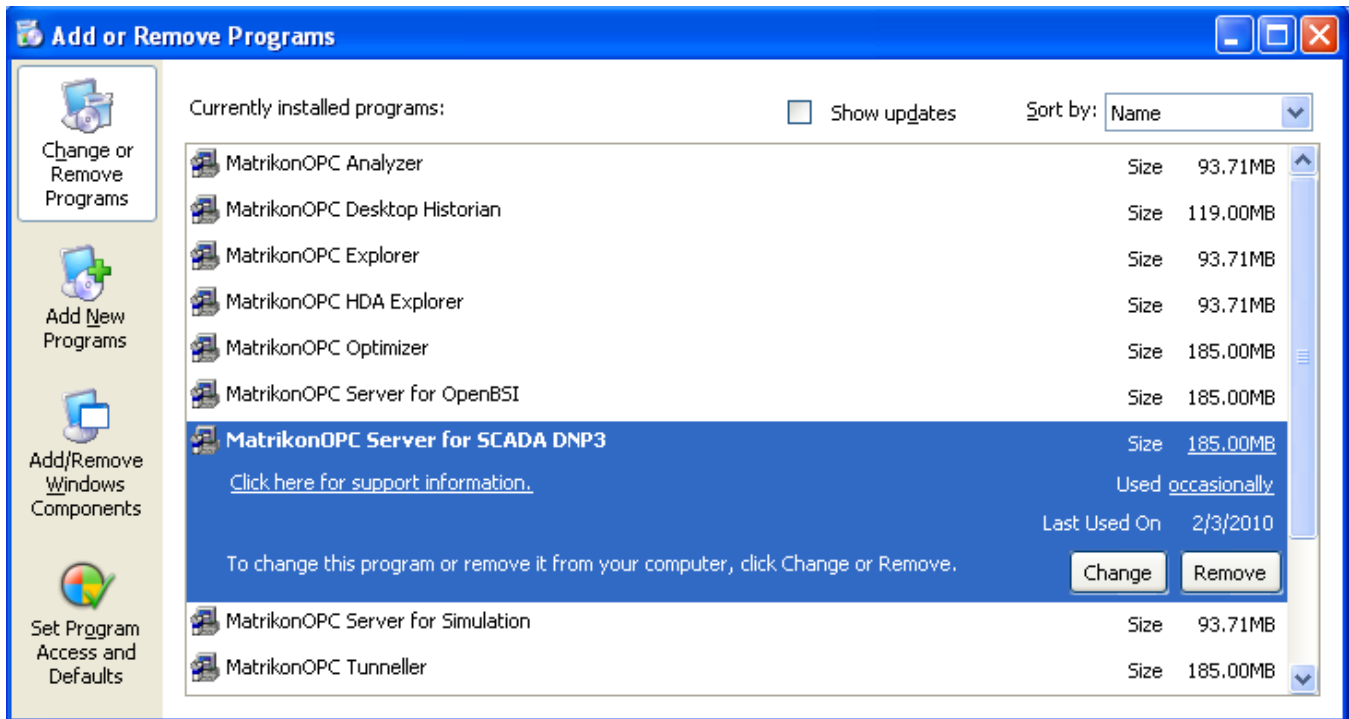

Figure 56 - Add or Remove Programs
3. The **Add or Remove Programs** window (Figure 56) is displayed.